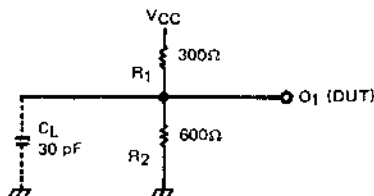

FIGURE 1
- ① Output Load: See Fig. 1.
- ② Input Waveform: 0.0V for low level and 3.0V for high level, less than 10ns for both rise and fall times.
- ③ Measurement Reference: 1.5V for both inputs and outputs.
- ④ C_L in Fig. 1 includes jig and probe stray capacitances.